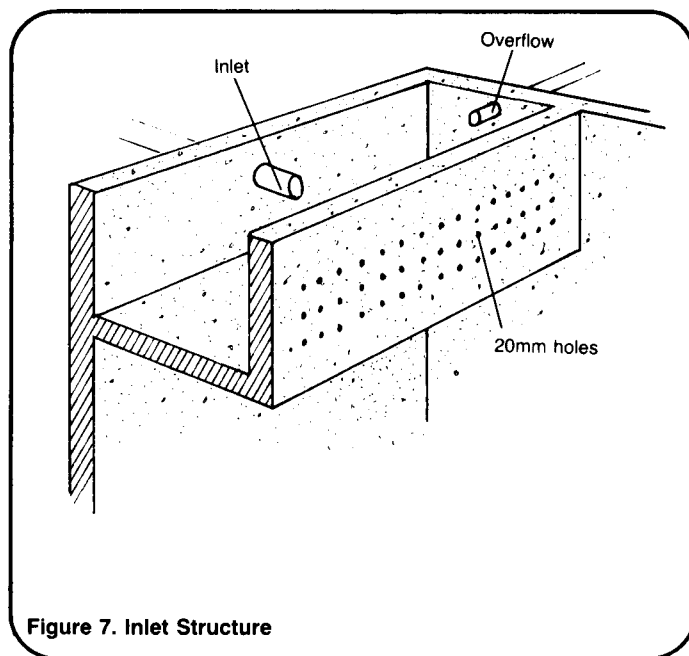

Figure 7. Inlet Structure
A well-constructed intake is important for the efficient operation of the sedimentation basin because it provides for even water flow into the basin. Figure 7 shows an intake structure for a sedimentation basin. To build this type of structure follow these steps:
2. Drill 45 holes, 20mm in diameter and 20mm apart, in the wooden forms as shown in Figure 7. Place wooden plugs in the holes. These plugs can be removed after the cement dries.